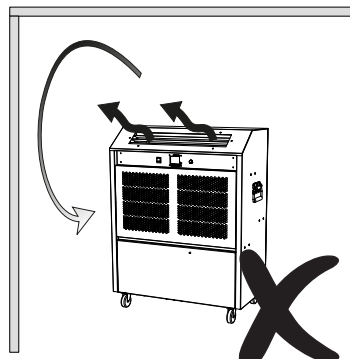

Fig. 4
**Fig. 4:** Care should be taken to avoid outlet air being obstructed as this will cause the air to rebound around the device resulting in recirculation and incorrect control of the device.